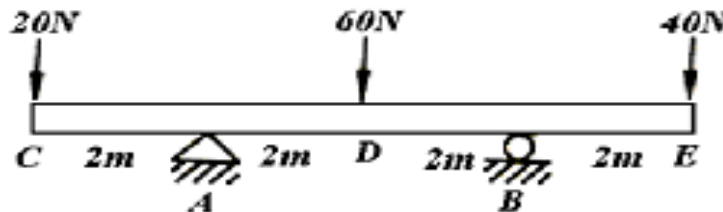

Fig:5
7. Determine the vertical reaction developed at a supports A & B in the beam as shown fig:5 using principles of virtual works. [10]